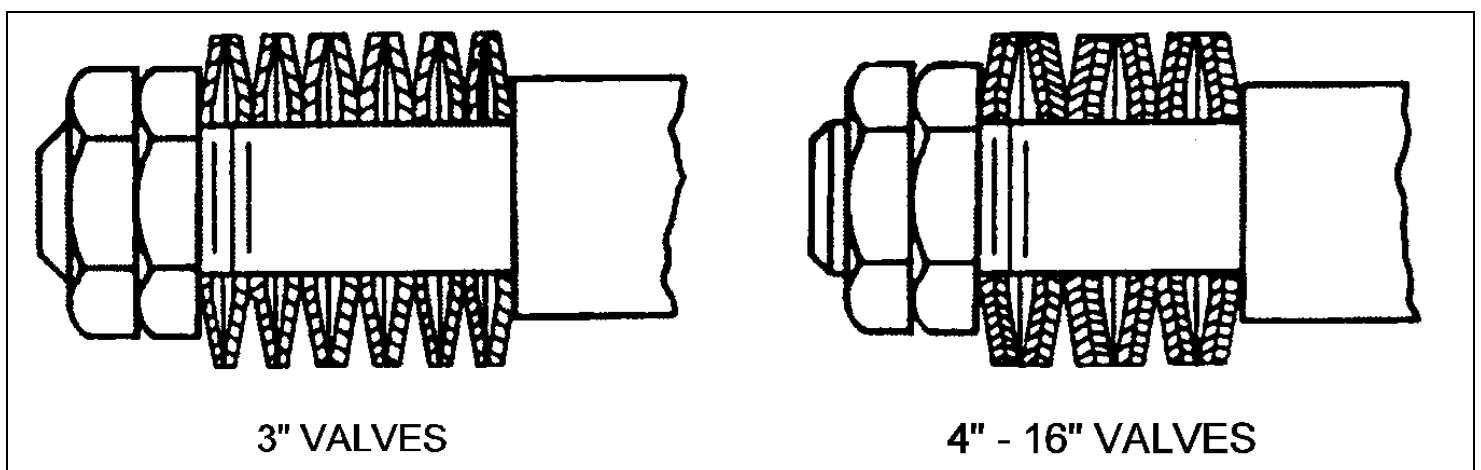

Figure 4 – Plug Stem Stampings
3. Slide the spacer, spring washers and nuts onto the rack rod. See Figure 4 for stacking arrangement of spring washers.
9. Slide the spacer, spring washers and nuts onto the rack rod. See Figure 4 for spring washer arrangement.